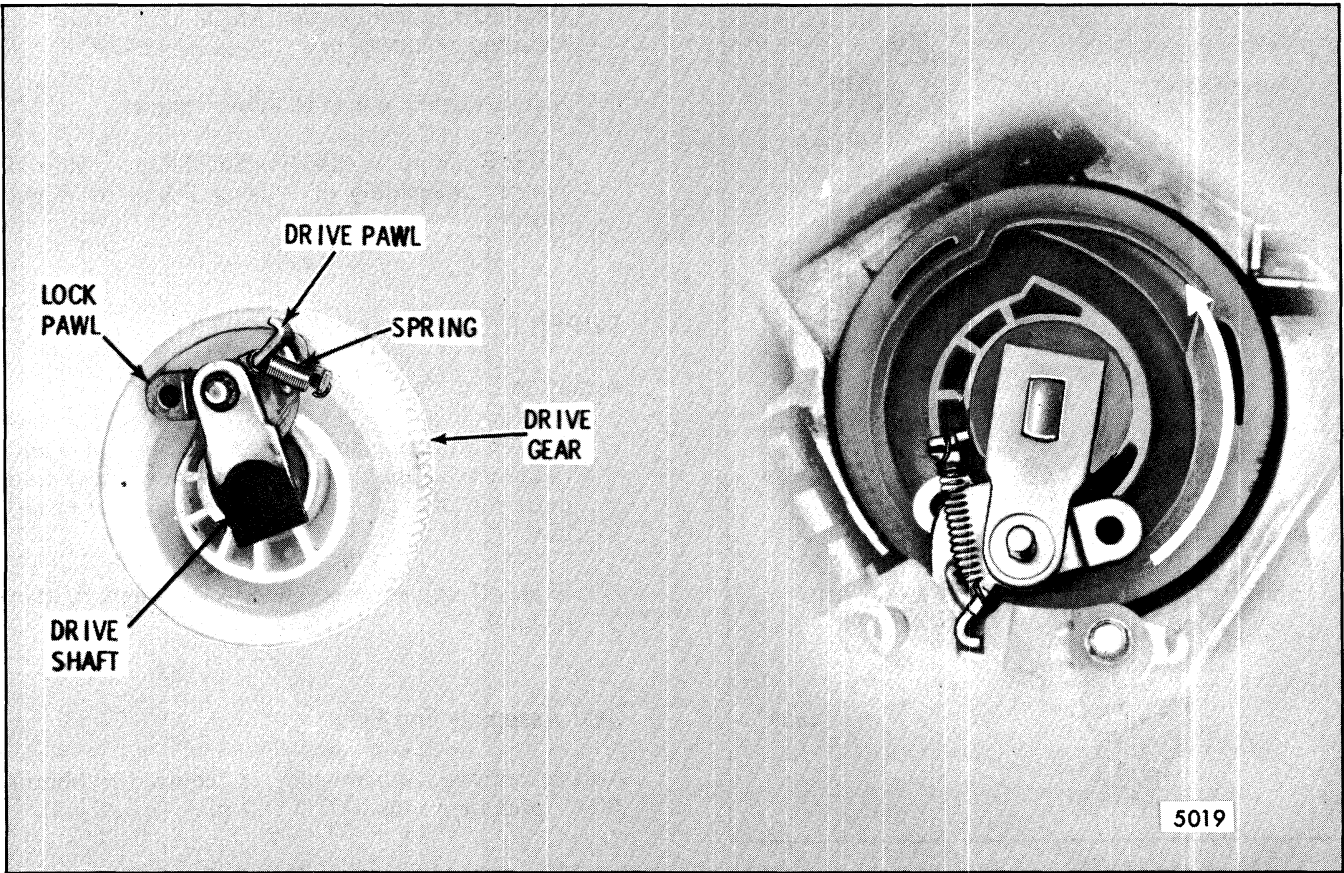

Fig. 2-46-Lock Pawl and Drive Pin Positioning
4. Holding the gear, manually rotate the drive plate in the direction of the arrow until the drive and lock pawl guide pins fit into their respective pockets in the gear (Fig. 2-46).